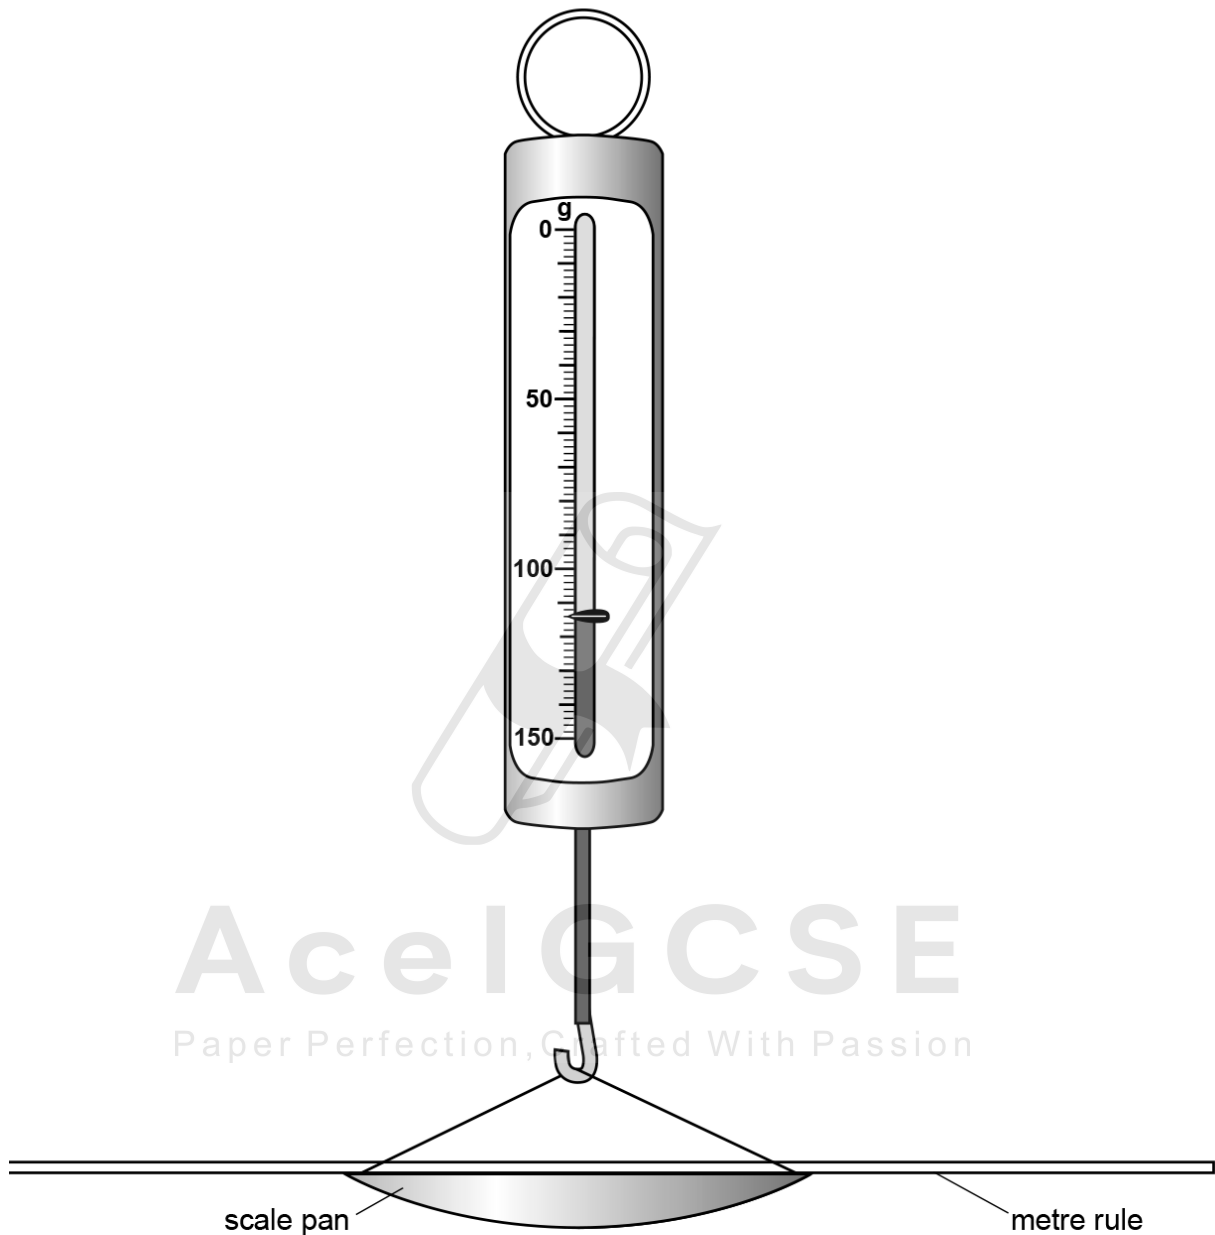

Fig. 1.2
- (b) The student measures the mass M of the rule, using a spring balance as shown in Fig. 1.2.
Write down the reading shown in Fig. 1.2.